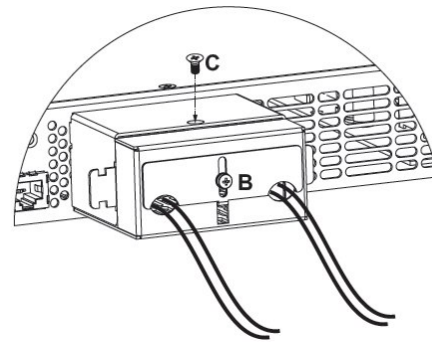

Fig.3-9: Enclosure assembly
7. Assemble the bottom cover enclosure back to it’s place, as show in Fig. 3-9, using screw “C”, (tightening torque 4.8-5.3 Lb-inch)